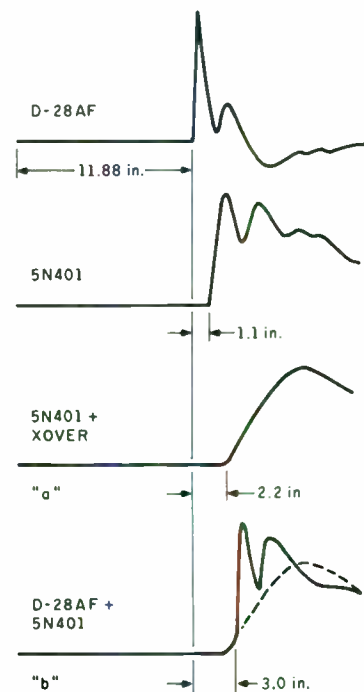

FIGURE 5: Time delay; (a) driver response differences and (b) matched response.
FIGURE 5: Cardioid (M) and figure-eight (S) microphone pickup patterns and their resulting matrixed patterns (L and R). Drawings are on a linear scale. The dotted arrow is the "on-axis" direction of the right matrix output. The solid arrow is the performer's physical direction from the mikes, to be heard only from the right speaker in standard stereo.